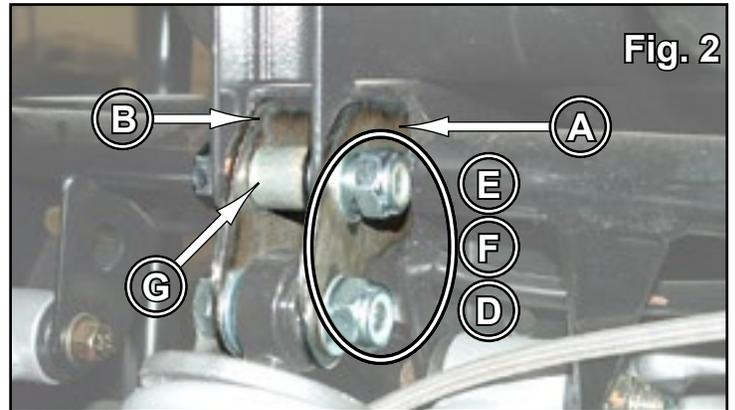

Fig. 2
7. Install Rear Brackets (A)(B), to Frame, with M10-1.5 x 50mm Lg. HHCS (F), M10 Flat Washers (E), Spacers (G), and M10-1.5 Nylock Nuts (D); **Note that Rear Brackets, Outside (A) are notched and go to outside of existing Shock Mounts.** See Fig. 2.
8. Reinstall shocks, into Rear Brackets (A)(B), with M10-1.5 x 50mm Lg. HHCS (F), M10 Flat Washers (E), and M10-1.5 Nylock Nuts (D). See Fig. 2. Tighten all hardware completely and reinstall Wheels.